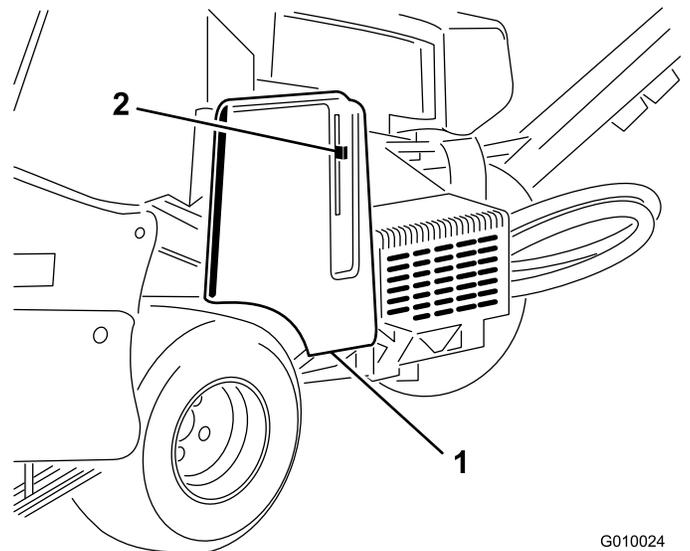
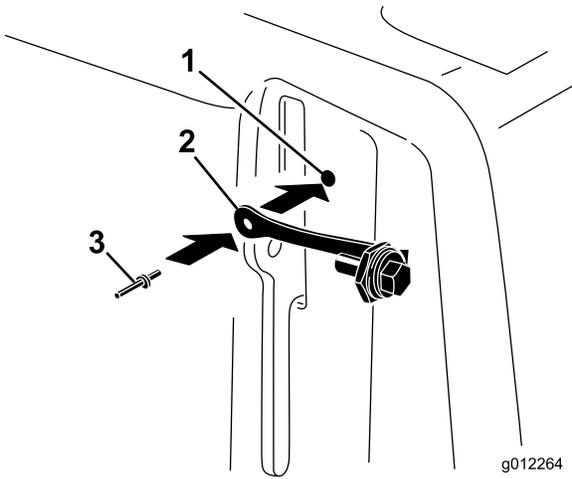

Figure 9
Figure 10
1. Locate the hole in the belt cover next to the latch lever (Figure 9 and Figure 10).
- Using the hole in the belt cover, install the lanyard assembly with a pop rivet (Figure 10).